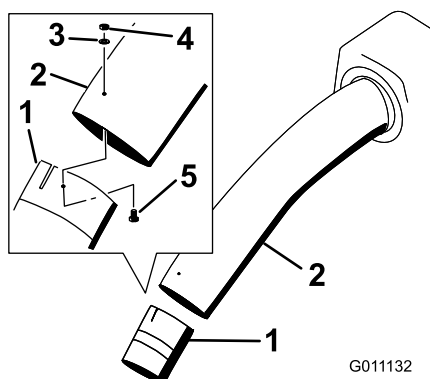

Figure 28
14. Join the upper and middle tubes with 3 bolts (#10 x 3/4 inches), 3 flat washers (7/32 inch), and 3 locknuts (#10) (Figure 28).